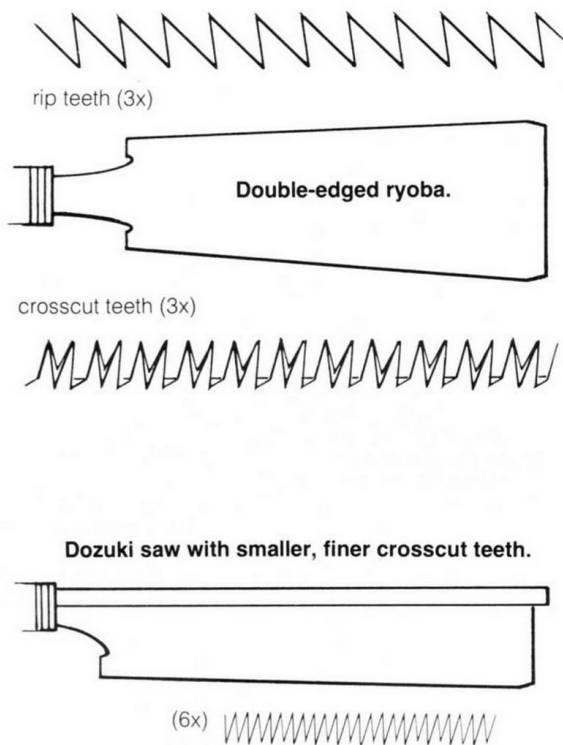

Fig. 1. Rip cut along lines a, b, and c. A shallow groove along the entire length of a keeps your saw in line.
**Step 1.** Make all rip cuts first along lines *a*, *b*, and *c* (fig. 1). Start by making a light groove on the top corner of *a*, leaving half of the thickness of the layout line on the wood (another half-thickness appears around the mortise; see the section on chisels, above). Rotate the wood so that the opposite face is up. Working on the same line *a*, start a new cut with the fine teeth and saw down the end face of the wood to connect with your initial cut. This gives you a shallow kerf, square with both surfaces, to help you guide the saw blade as you advance to the shoulder of the tenon.